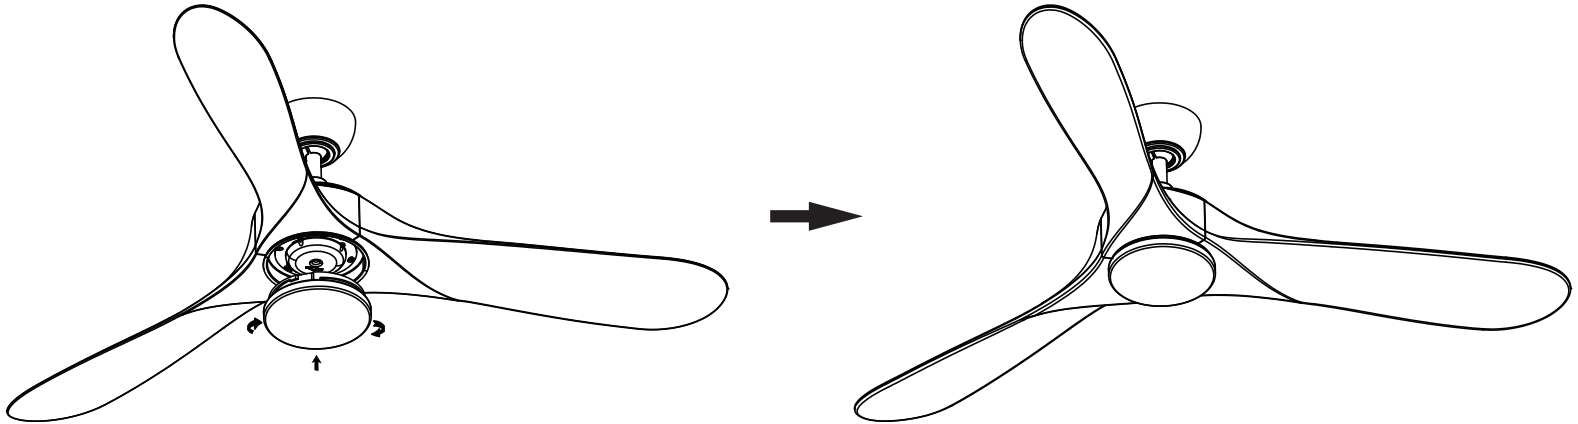

Fig. 25
Step 1. Carefully raise the diffuser to the fan and seat against the mounting plate. Carefully rotate the diffuser (clockwise) until it locks into place in the mounting plate. **DO NOT OVER-TIGHTEN.** (Fig. 25)